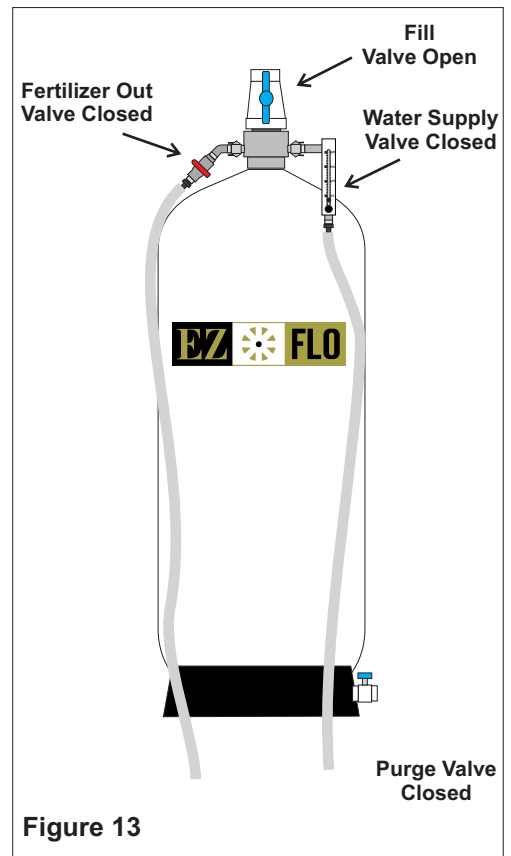

Figure 13
Step 1- Confirm all valves are closed and the tank is empty or enough fluid has been removed to allow for the addition of the new product. If filling to maximum capacity all fluid should be drained through the purge valve (Figure 13)